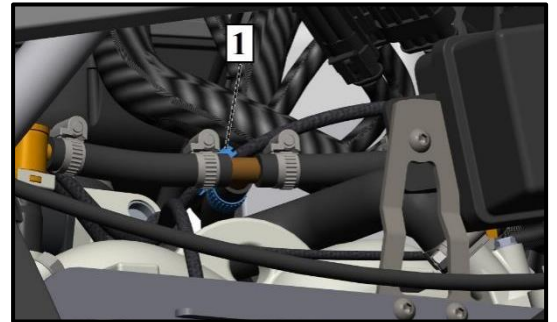

Fig. 13
5. Loosen and remove the clamp (Pos. 1, Fig. 13) from the fuel hose connected to the T-shaped fitting using a 7 mm slotted screwdriver or an end screwdriver.